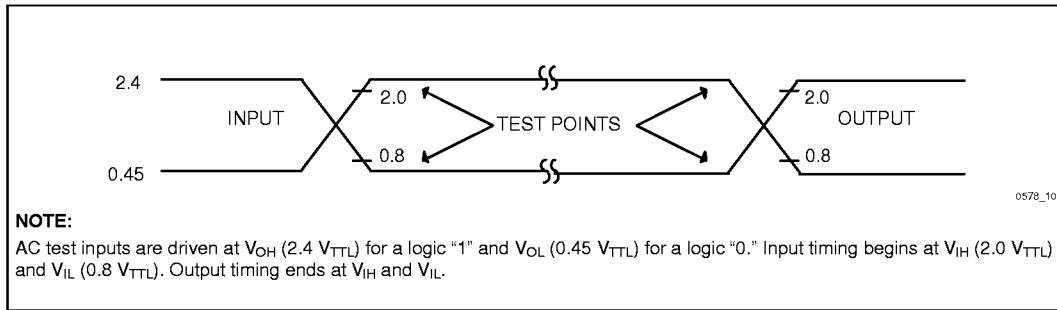

Figure 10. Inputs and Measurement Points
1. See *Inputs and Measurement Points* (Figure 10).